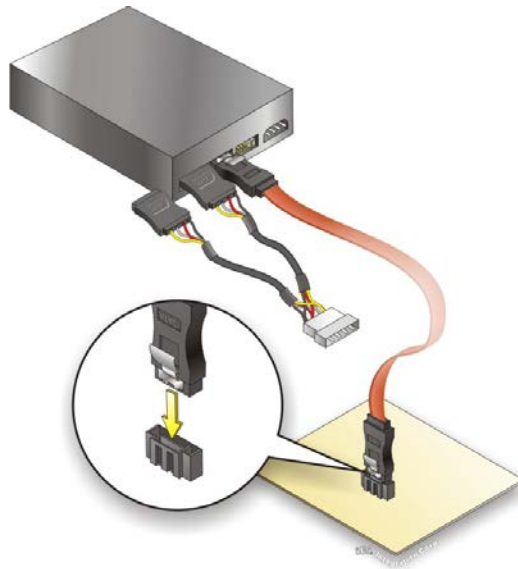

Figure 4-17: SATA Power Drive Connection
Step 3: **Connect the cable to the SATA disk.** Connect the connector on the other end of the cable to the connector at the back of the SATA drive. See **Figure 4-17**.
Step 4: **Connect the SATA power cable.** Connect the SATA power connector to the back of the SATA drive. See **Figure 4-17**.